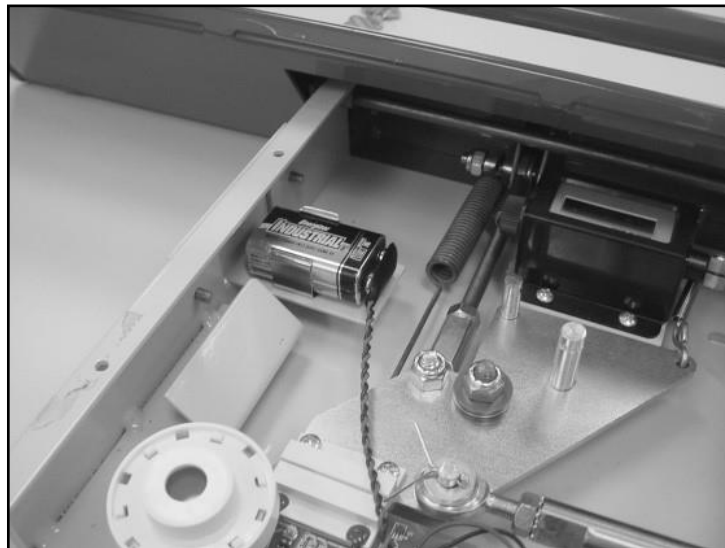

FIGURE A.4
- A-4.** Reinstall the Battery Bracket Assembly and the Lock Bolt Housing Assembly on the opposite side of the unit from where they were originally installed (See Figure A.4).